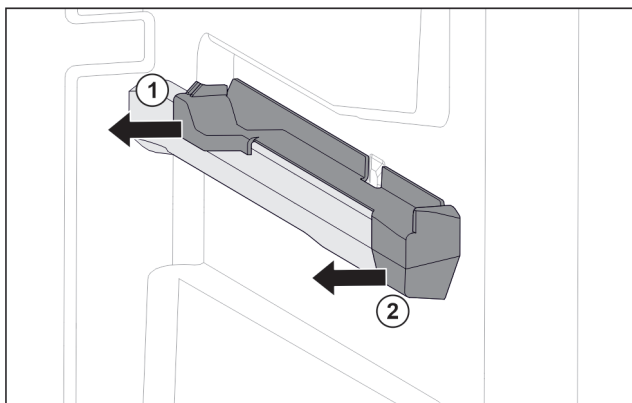

Fig. 152 Attachment on the right moulded rib
- Pull off attachment at the back sideways. Fig. 152 (1)
- Pull off attachment at the front sideways. Fig. 152 (2)